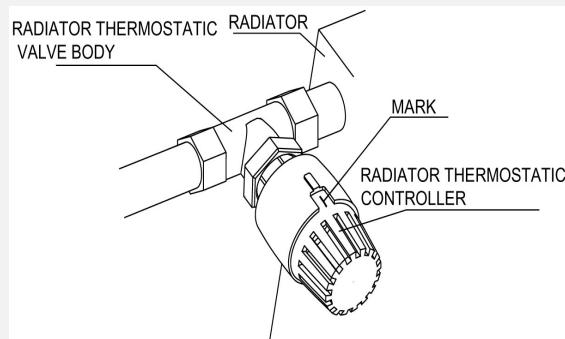

Fig. 1
- When installations, let the hexagonal edge of the radiator valve aim at the internal rabbet in the controller (see Fig. 2), and keep the mark on the controller face up (see Fig. 1). Then tighten the connecting nut at this position.